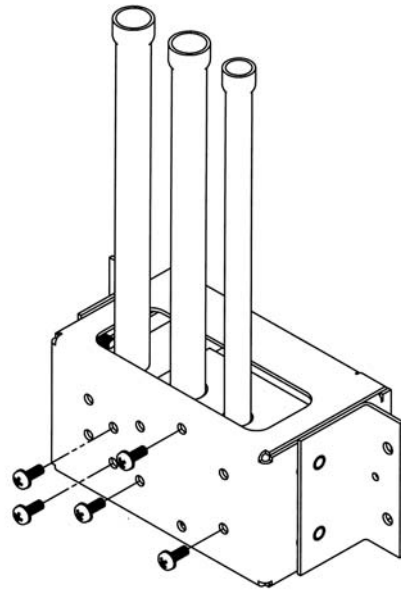
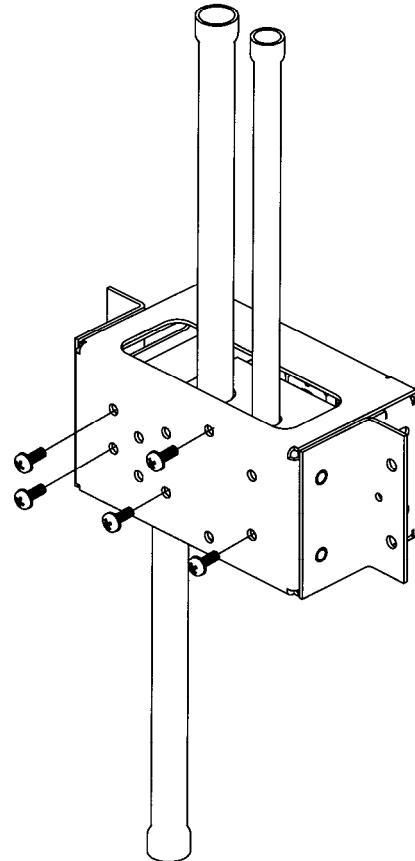

Figure 2
Figure 3
This portion of the 6255-1 outlet station has the option of unscrewing the gas block, (N₂O/O₂) (Figure 2) from the support plate (three screws), inverting the block so the pipes may extend downward (Figure 3).
2.2. **IMPORTANT:** When remounting the blocks to the support plate use the *lower* set of holes on the plate (Figure 3) to insure the faceplate will line up. (Note: This is only when pipes are pointing down.)